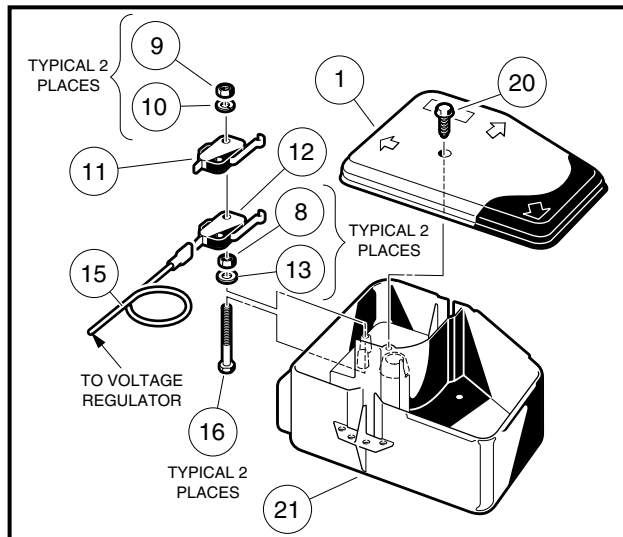

Figure 12b-19 Kill Limit Switch
1. Install the kill limit switch (12) onto the two screws (16) (**Figure 12b-19, Page 12b-19**).
2. Connect the two white/black wires to the common (COM) terminal and the black wire to the normally open (NO) terminal of the kill limit switch (12). Install the accelerator pedal limit switch (11).
3. Secure the switches in place using two washers (10) and two nuts (9). Tighten to 5 in-lb (0.6 N·m). **See following CAUTION.**